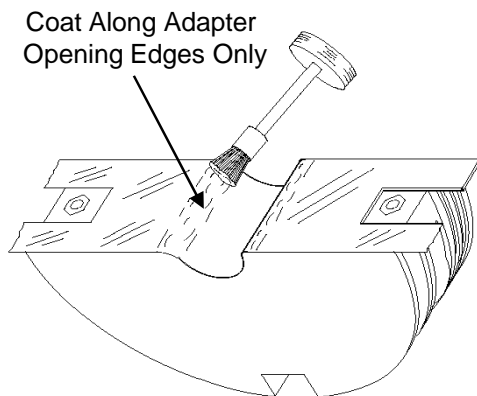

Figure 30
12.8 Paint a strip of C-Cement over LOCK-TAPE Sealant Strips along edges of Adapter openings only and allow to dry. **See Fig. 30.**